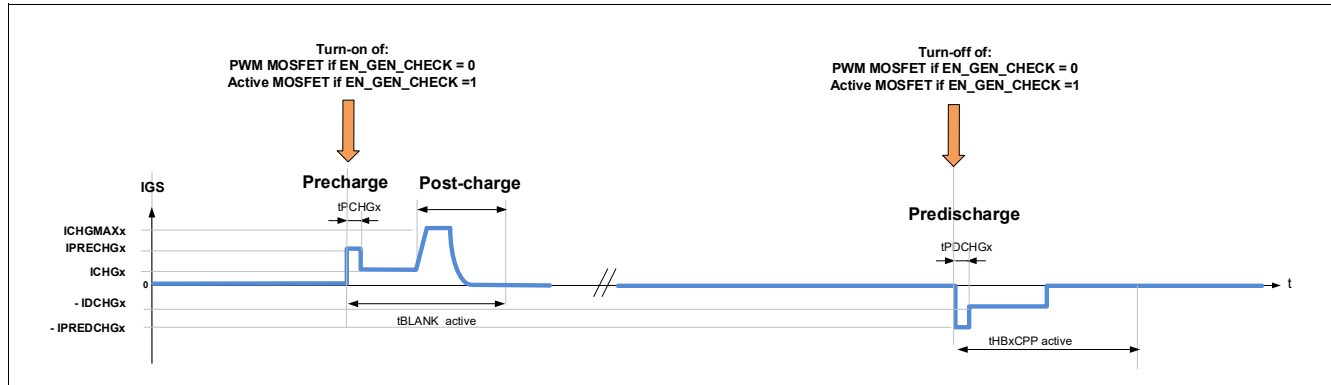

Figure 46 PWM overview - AGC = 10_B or 11_B, POCHGDIS=0 (post-charge enabled)
- **POCHGDIS** = 0: After the charge phase, the control signal for the charge current of LSx is increased by one current step at every bridge driver clock cycle (**BDFREQ**) to ICHGMAXx. Refer to **Figure 46**